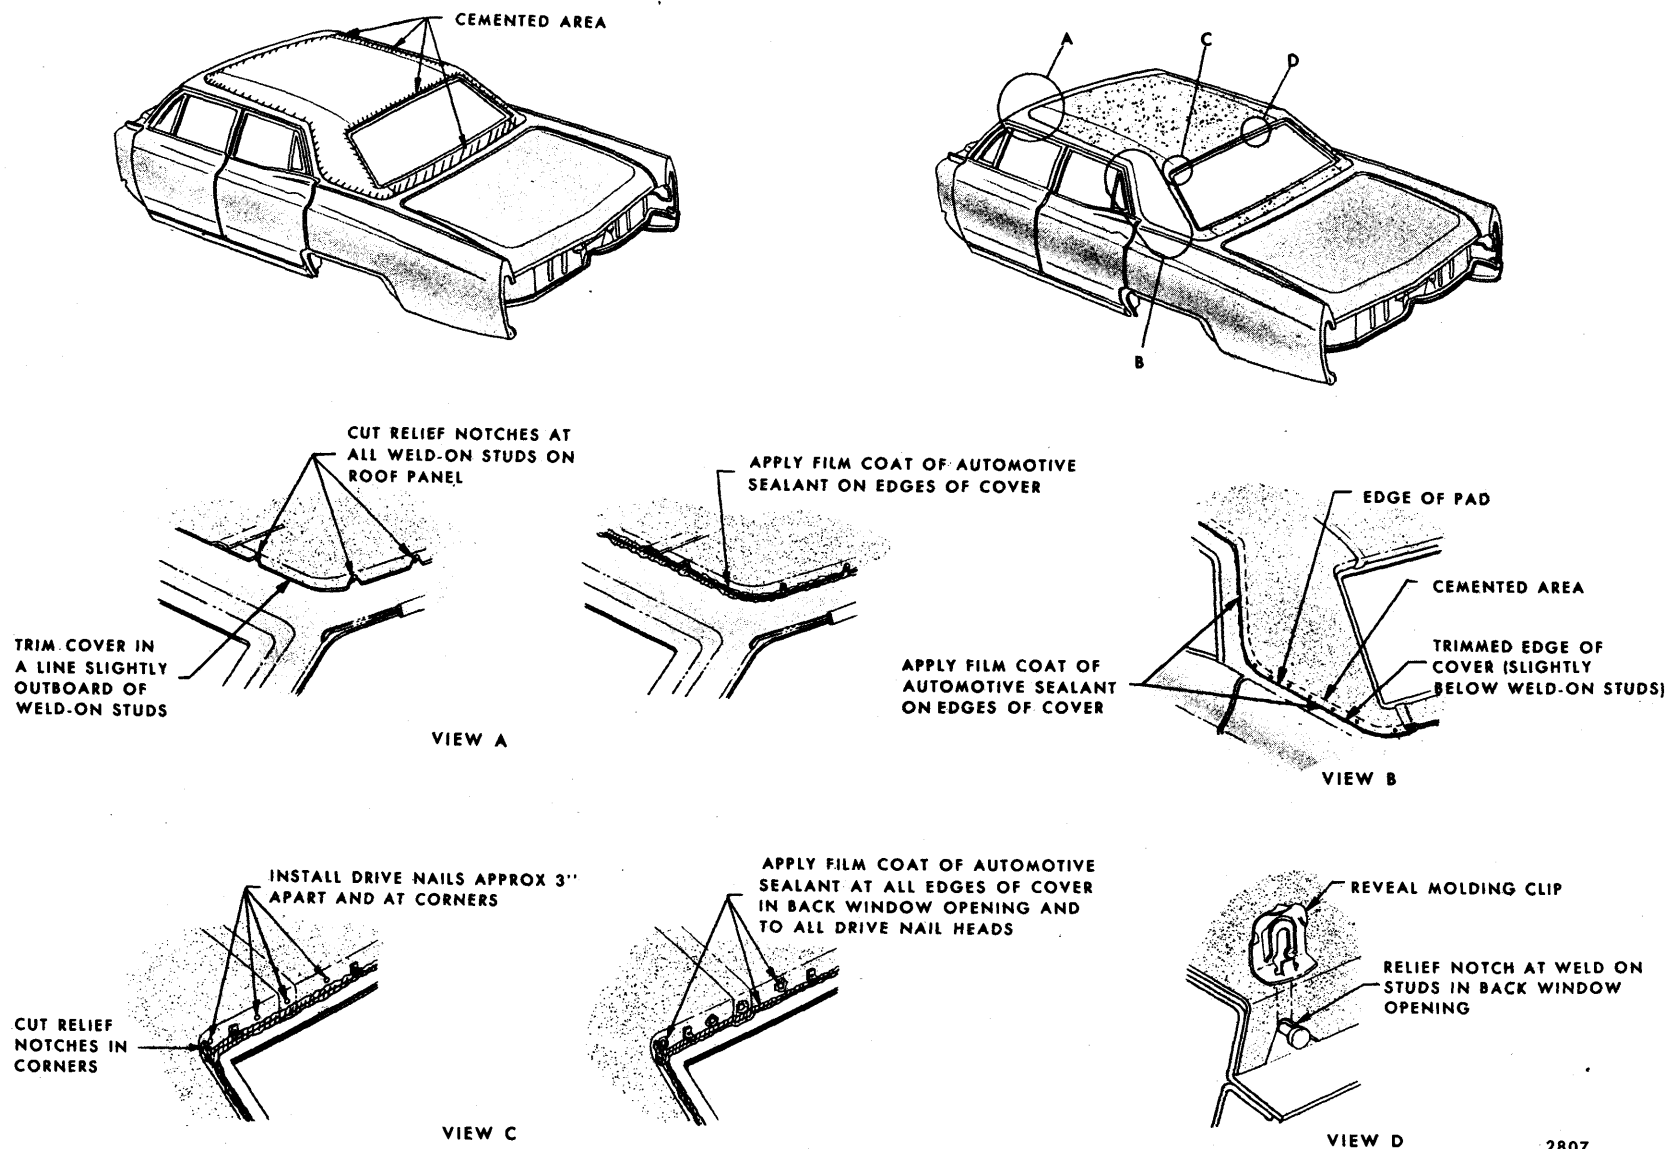

Fig. 12-2—Typical Fabric Roof Cover Installation with Pad and Roof Panel Moldings
9. Cut relief notches in cover at all weld-on studs and angle cuts as required in corners of back window opening. Apply cement to back window opening and cement cover in opening. In the event a reveal molding clip could not be removed, trim cover around clip and cement cover down behind clip (See Fig. 12-2).
11. Apply cement to one side of exposed roof panel where cover is attached (make certain cement overlaps pad approximately 1") and cement cover to cemented areas. Relief notches must be cut in cover at weld-on studs on roof panel (View "A", Fig. 12-2).
13. Install drive nails across top and down sides of back window opening approximately 3" apart and 2 in each upper corner. (View "C", Figure 12-2).
18. Trim fabric cover in a line along retainers. **DO NOT DAMAGE PAINT FINISH.** At front corners, raise cemented edge of cover and using scissors or sharp knife cut radius so roof panel moldings cover cut edge. Recement fabric cover to roof panel. Remove masking tape from roof panel (View "A", Fig. 12-2)
20. Apply a "film" coat of silicone sealant such as Dow Corning Automotive Sealant, General Electric RVP Sealant, or equivalent to the edges of cover in back window opening, at belt area and at edges under roof panel moldings. Make certain edge of material around all reveal molding clips that were not removed, is also sealed (Fig. 12-2).